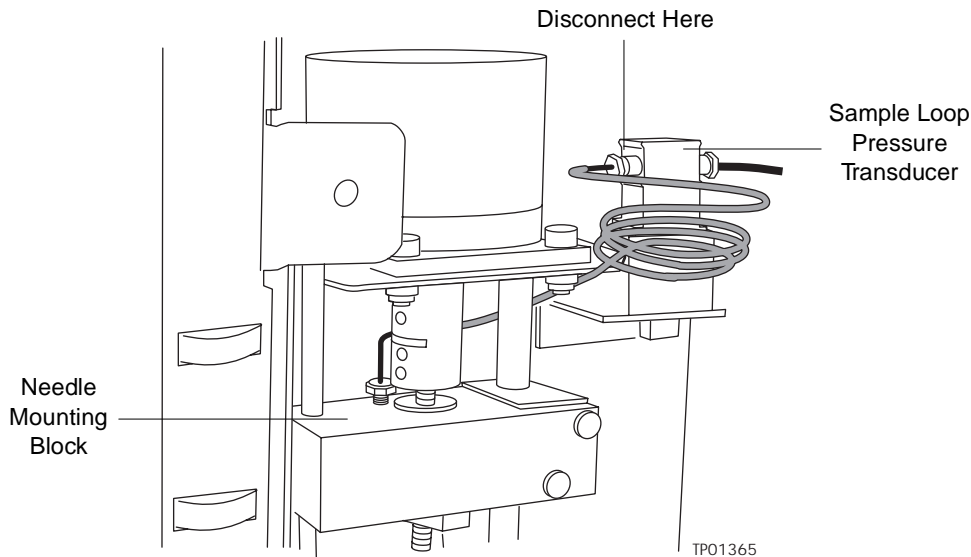

Figure 2-13 Disconnecting the Sample Loop
1. Use the 5/16-inch wrench to disconnect the sample loop from the pressure transducer, as shown in Figure 2-13.
1. Use the 5/16-inch wrench to disconnect the sample loop from the pressure transducer and the needle drive mechanism, as shown in Figure 2-13.